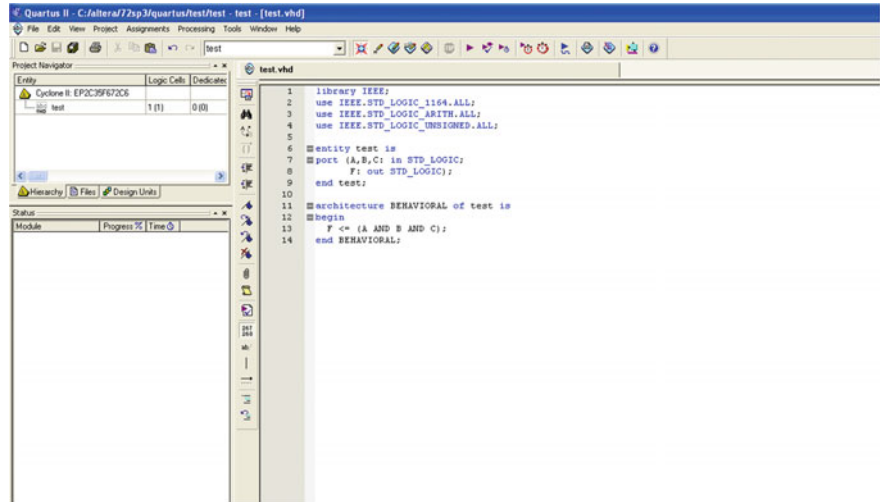

Fig. 2.6 Three-input adder VHDL code
- (8) Then type in your logic code in the editor (Fig. 2.6) then go to file > save as, assign the file name same as entity name.
- (9) **Next step is assignment of FPGA pins.**